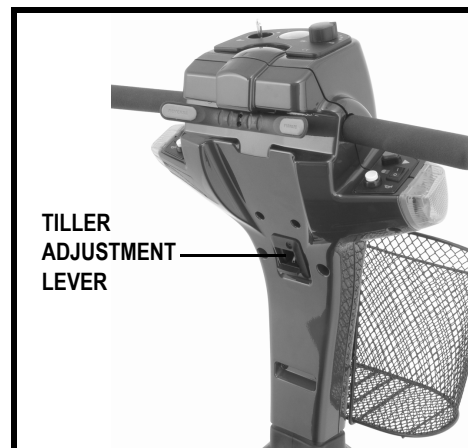

Figure 11. Tiller Adjustment Lever
1. Lift the tiller adjustment lever. See figure 11.